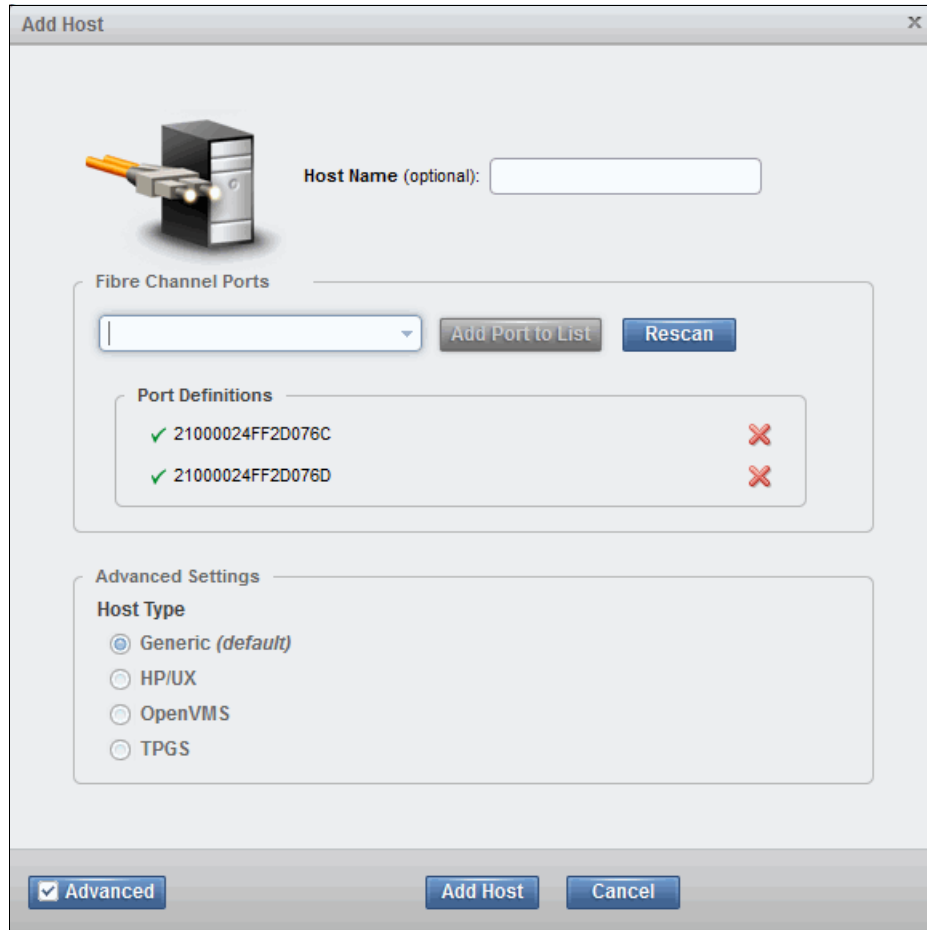

Figure 4-36 Adding the host WWPNs
5. Select the WWPNs for your host and click **Add Port to List** for each. These will be added to **Port Definitions**, as shown in Figure 4-36.